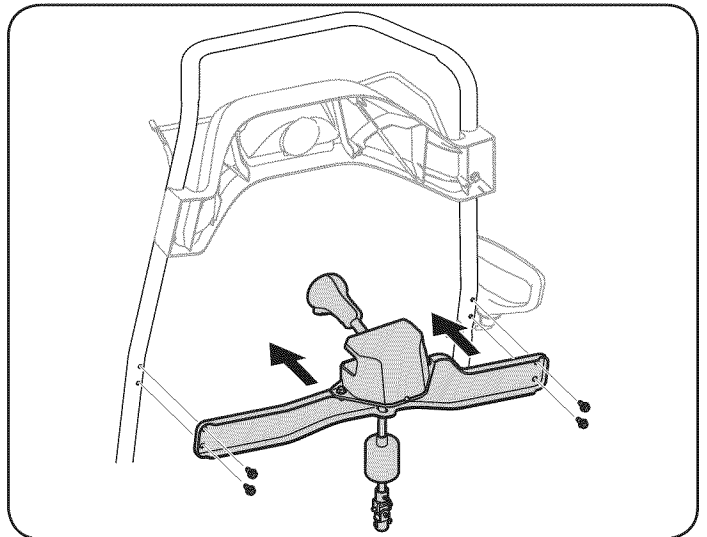

Figure 7
2. Using the four hex washer screws, install the chute rotation control assembly. See Figure 7.